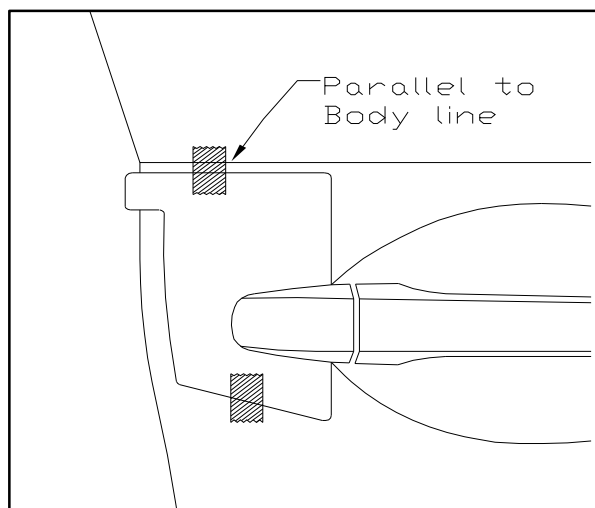

Fig. 1-12
- (l) Select front door template and fit notch around door handle. Adjust as needed to ensure it is parallel to body line directly above the template. If needed, tape into place using painter's masking tape. (Fig 1-12)